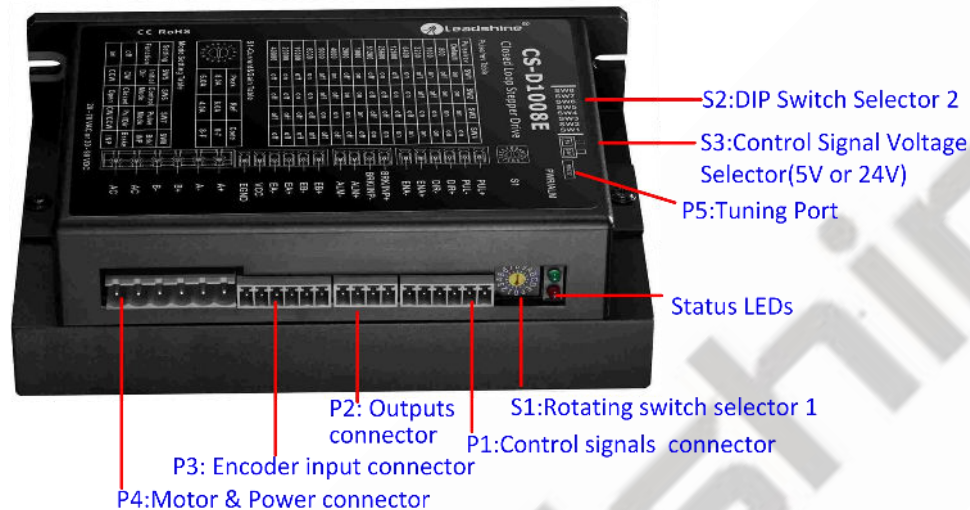

Figure 2: CS-D1008E connectors
A CS-D1008E closed loop stepper drive has 5 connection blocks from P1 to P5 (see figure 2).
The P1 connector in Figure 2 contains connections for control signals.
**Notes:** (1) ENA signal is no connected as default;
(2) Control signal amplitude is 24 V as default. If it is 12 V, please set the S3 (Figure 2) selector switch to 5 V first, then connect 1K $\Omega$  resistor; If it is 5V, please set the S3 to 5V.
The P3 connector in Figure 2 is for encoder signal connection. Refer to the following table for details.
The P4 connector in Figure 2 is for motor and power connection. Refer to the following table for details.
The P5 connector in Figure 2 is a RS232 communication port for PC connection. Refer to the following pin definitions. CS-D1008E has a tuning port with RS232 to modify the drive parameters, it is just used to modify parameter, not for equipment control because neither precision nor stability is sufficient. If you need a field bus drive, use a Leadshine RS485 or EtherCAT type drives